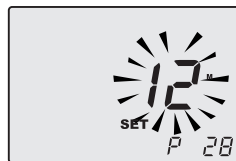

Fig. 10.3
- Scroll through the various parameters using key 18 or 19 until the LCD display indicates the letters **P28** and the value of the parameter, indicating entry in "parameter 28" (Fig. 10.3).